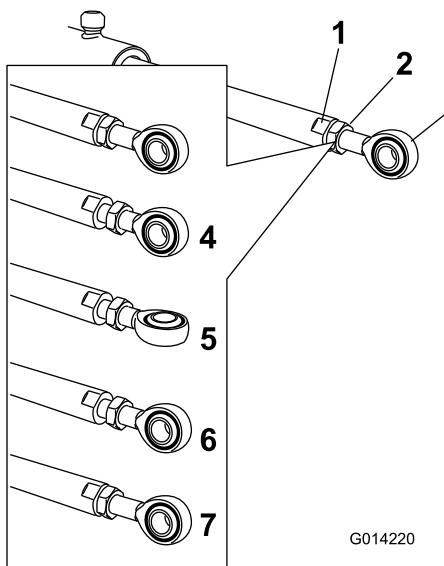

Figure 114
5. Hold the actuator rod at the flats of the rod using a wrench, then loosen the jam nut (Figure 114).
6. Turn the rod end in the actuator rod to shorten or lengthen the extended actuator to the desired position (Figure 114).